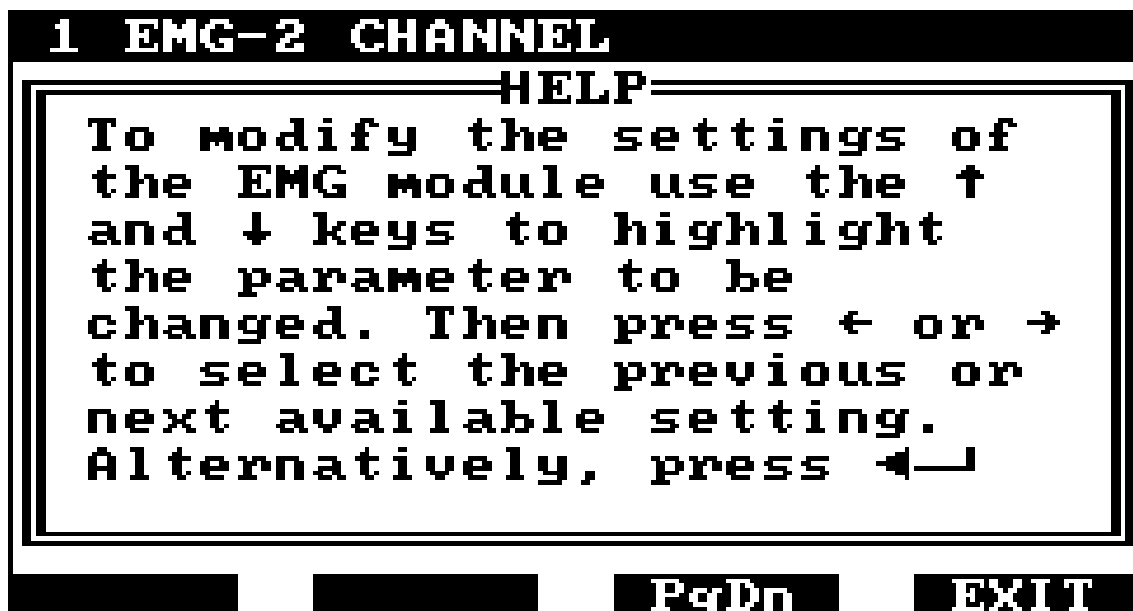

Figure 16 - Help Text Display
12. F1 - HELP: When the label for function key F1 is HELP, pressing F1 will suspend the current activity and the display will show help text relevant to the current display or activity (see figure 16) .